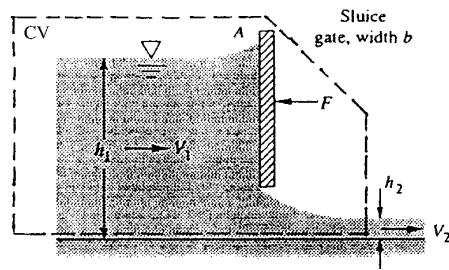

Fig. P3.63
**3.63** The sluice gate in Fig. P3.63 can control and measure flow in open channels. At sections 1 and 2, the flow is uniform and the pressure is hydrostatic. The channel width is  $b$  into the paper. Neglecting bottom friction, derive an expression for the force  $F$  required to hold the gate. For what condition  $h_2/h_1$  is the force largest? For very low velocity  $V_1^2 \ll gh_1$ , for what value of  $h_2/h_1$  will the force be one-half of the maximum?